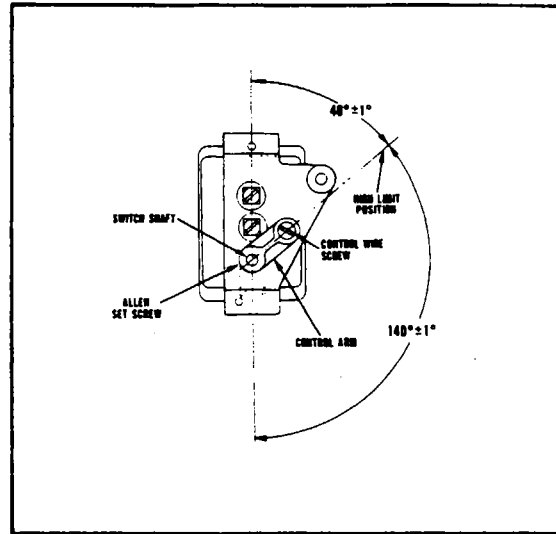

Figure 13-40. Top View - Duct Switch (Typical Control Lever Positions)
13-143. **DUCT SWITCH.** (Refer to Figure 13-40.) This switch is installed in the ventilating air duct downstream from the heater to sense the ventilating air outlet temperature. To select the desired cabin temperature, the switch may be adjusted manually from a high of $250^{\circ} \text{F} \pm 10^{\circ}$ downward through a range of $146^{\circ} \text{F} \pm 6^{\circ}$. The switch has a differential of $10^{\circ} \text{F} \pm 5^{\circ}$ at any given setting.
- h. Connect the duct switch control cable to the switch on the left side of the air distribution box. Adjust the cable so that when the control knob is full in against its stop, the control arm aligns with the vertical line of the switch. (Do not loosen the Allen set screw that secures the arm to the switch shaft.) Pull the control knob out to ascertain that the control arm will have a $140^{\circ} \pm 1$ travel to high heat position. (Refer to Figure 13-40.)